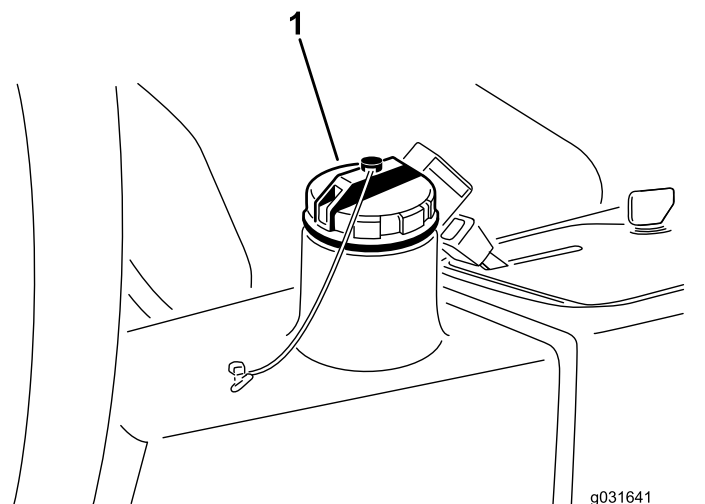

Figure 61
2. Clean the area around the filler neck and hydraulic-tank cap (Figure 61).
3. Remove the hydraulic-tank cap (Figure 61).